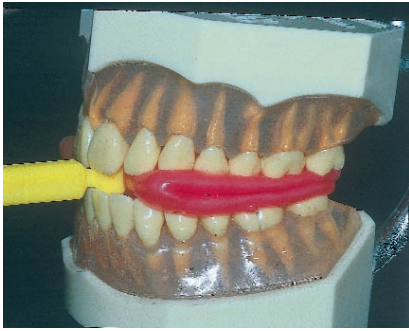

Figure 7: A proper construction bite taken with an Exact-o-Bite
4. Take an appliance construction bite such that the anterior incisors are in an end to end relationship and between 2-4mm apart (figure 7). This will allow a lower appliance to be made that will hold the patient open 2-4mm beyond their ideal vertical relationship. This excess opening will allow the vertical elastics to have the proper force necessary to encourage eruption.